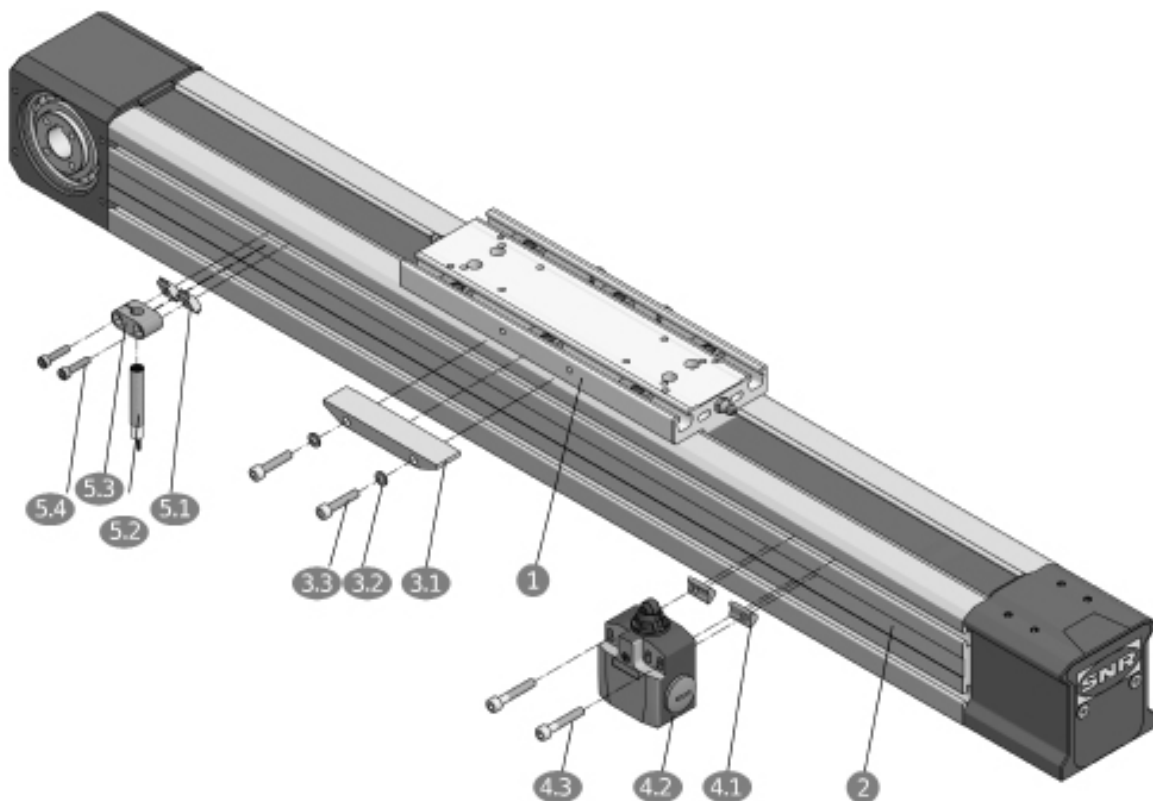

Figure 3.12 __ Mounting of limit switches for linear axis AXE_Z
For the mounting of the limit switches and actuating elements the following steps must be taken into account according to Figure 3.12. The table ❶ and the profile ❷ of the linear axis are designed symmetrically to allow mounting on both sides.